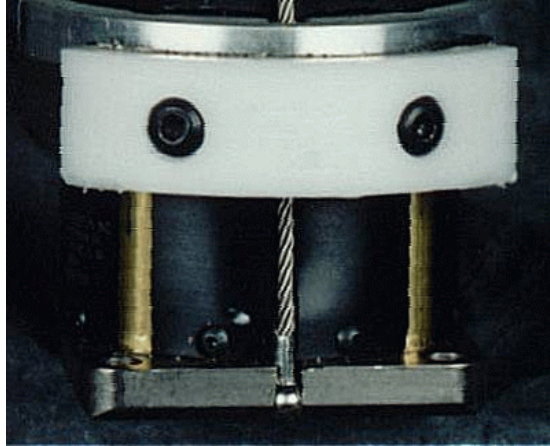

Figure 5.6- Lower neck load cell bumper
6. Place the Lower Neck Load Cell Bumper (T1NKM025) against the front of the Lower Neck Load Cell. Position the Lower Neck Load Cell Bumper Cover (T1NKM024) over the bumper and secure both to the load cell using two #10-32 x 3/4" BHSCS {1/8"} as shown in **Figure 5.6**.